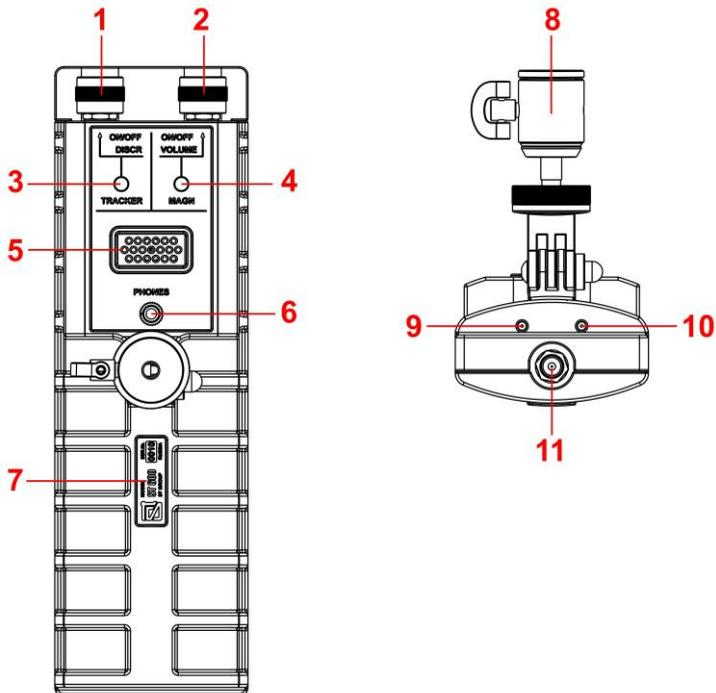

fig.2
The numbers in fig.2 denote:
An adjustable bracket is installed on the device body (fig.2, pos.8). The bracket allows you to fix the main unit on the telescopic handle (fig.1, pos.5) and fix it in the desired position relative to the examined surface.
Power supply of the main unit and the generator is carried out from built-in batteries. Fully charged batteries ensure continuous operation of the main unit and the generator for 7 hours. The power control of the main unit is carried out using two LEDs (Fig. 2, p.9 and p.10). With a fully charged battery in operating mode, both LEDs do not glow. When the battery is discharged, a red LED lights up (Fig. 2, p. 9). The battery of the main unit is charged in the off state using the charger (Fig. 1, p. 4) while the green LED is lit (Fig. 2, p.10), which goes out when charging is complete. Full charging time of the main unit is not more than 2 hours.
1. Turn on the main unit by switch (fig.2, pos.2). The device automatically switches to the “DETECTOR” mode. The «MAGN» indicator will light (fig.2, pos.4).
2. Connect headphones to the main unit (fig.2, pos.6).